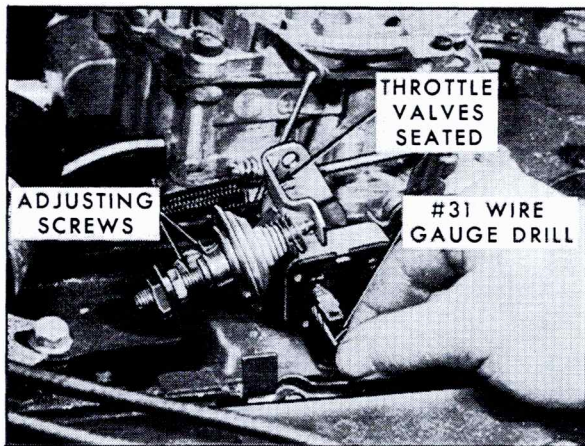

Fig. 6-93 Downshift Switch Adjustment
3. Loosen two mounting screws and insert a #31 (.120") wire gage size drill through the calibrating hole below lower wire terminal extending through to carburetor side of switch, Fig. 6-93. Adjust position of switch so that lever just touches the carburetor adapter plate arm (stud on 693). With this adjustment the downshift switch should make contact above 60° throttle.